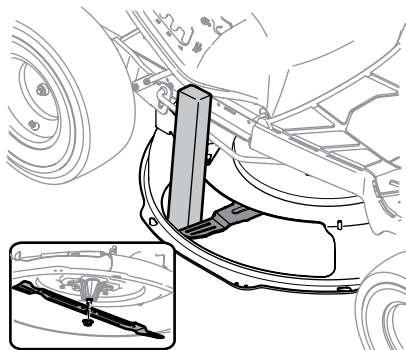

Figure 4-14
2. Using a block of wood or 2 x 4, insert it into the deck opening and rotate the blade around until it wedges the wood between the deck opening and the cutting blade, as shown in Figure 4-14.
3. Remove the hex flange nut that secures the blade to the spindle assembly. See the Inset of Figure 4-14.